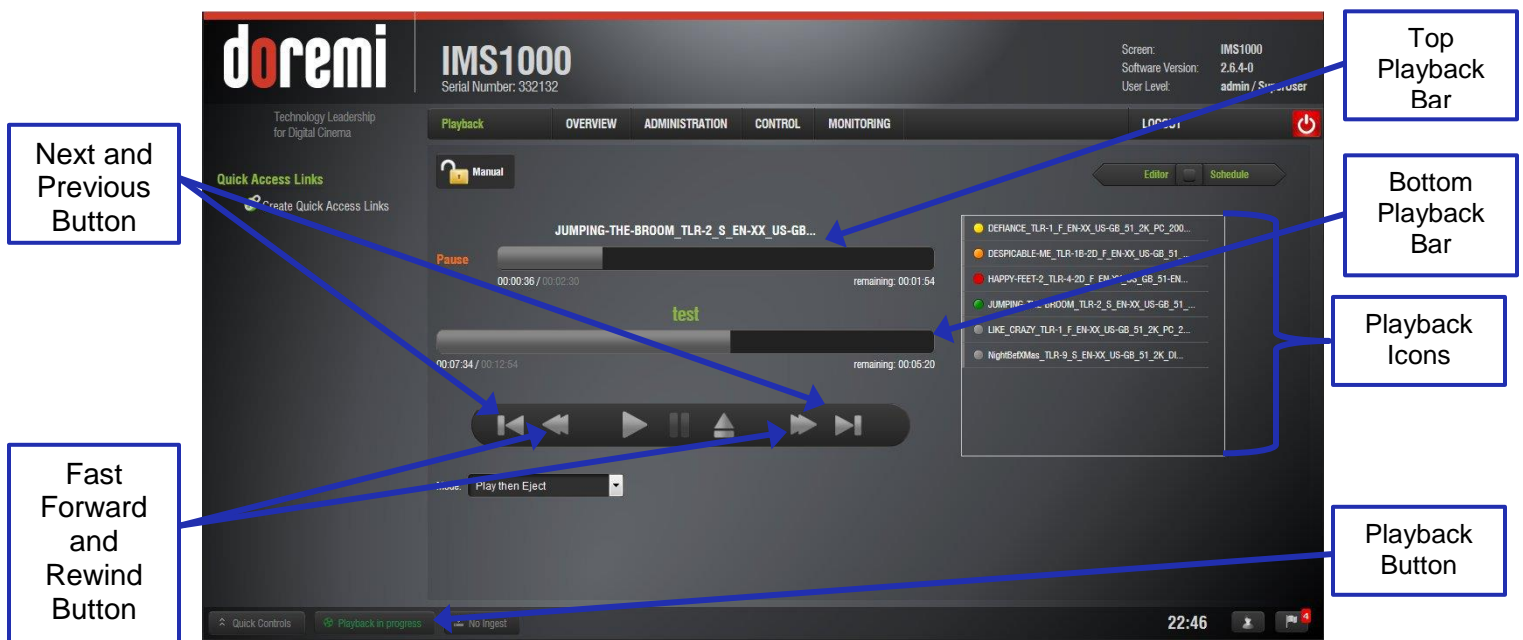

Figure 269: Playback Icons
The SPL progress list-box displays the order of the playback (Figure 269).
The top playback bar displays how much time has elapsed/how much time is remaining in the individual element. The bottom playback bar displays how much time has elapsed/how much time is remaining in the whole SPL (Figure 269).
The Playback button on the bottom Notifications Bar will display if playback is in progress (Figure 269). If playback is in progress, clicking on the Playback button will open up the Cinelister Playback tab. If playback is not in progress, clicking on the button will open up the Cinelister Editor tab.
- Use the Next and Previous buttons to go to the next or previous CPL in the Show Playlist (Figure 269).
- Use the Fast Forward and Rewind buttons to forward or rewind within a CPL. The default value is set at 3 minutes (Figure 269). See 12.15 for instructions on how to adjust the value.